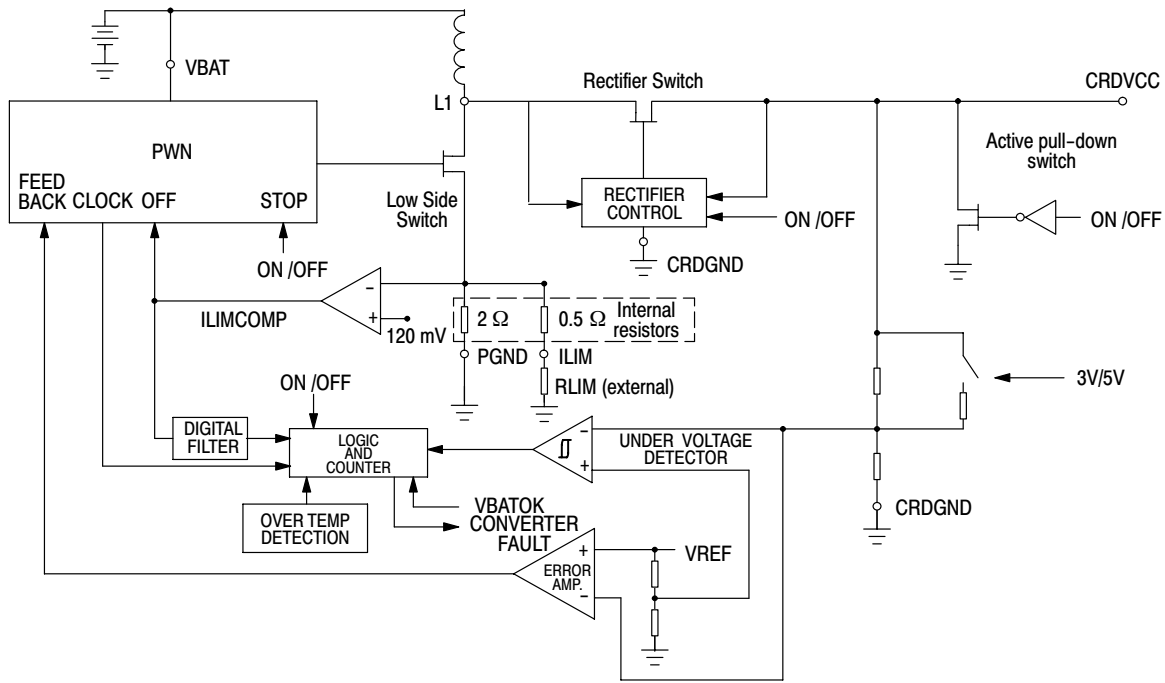

Figure 22. DC-DC Converter Functional Block
**DC-DC Converter Description:** The converter architecture is very similar to the boost architecture, with an active rectifier in place of the diode. The switching transistor is connected to ground through a resistor network in order to adjust the maximum peak current (Figure 22). A transistor connected to the converter output (**CRDVCC**) forces this pin to a low voltage when the converter is not operating. This prevents erratic voltage supply to the smartcard when not in use.